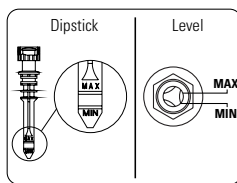
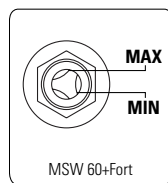

FIGURE 8.6
FIGURE 8.7
1. Check oil level (Figure 8.6) (For oiled compressors).
- D. Check the oil level and add oil if necessary before switching on the compressor. The oil level must be between the maximum and minimum marks of the oil gauge dipstick (For oiled compressors) (Figure 8.6). For compressor model MSW 60+Fort the oil view sight shall be read according to Figure 8.7.